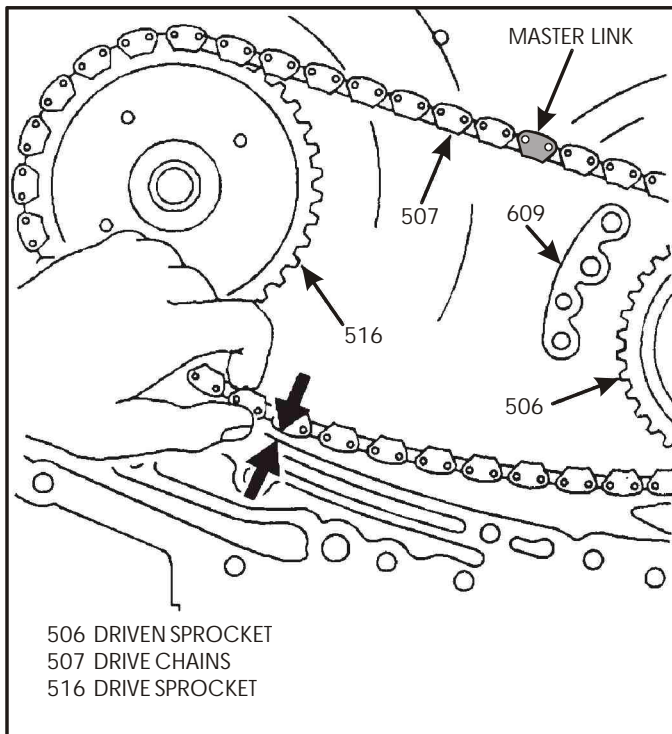

Figure 66
- B. Pull the drive chain toward the case at the location indicated in Figure 66.
- C. Measure the distance between the case and the drive chain, as shown in Figure 66.
If the distance is less than 1/8", replace the drive chain. Refer to Figure 66.